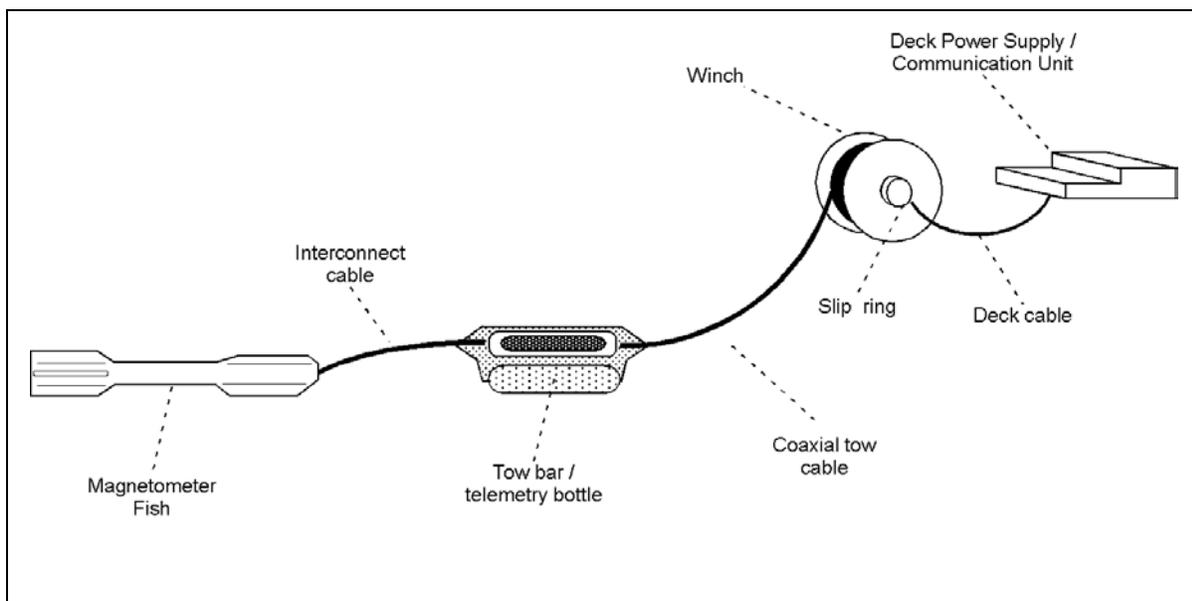
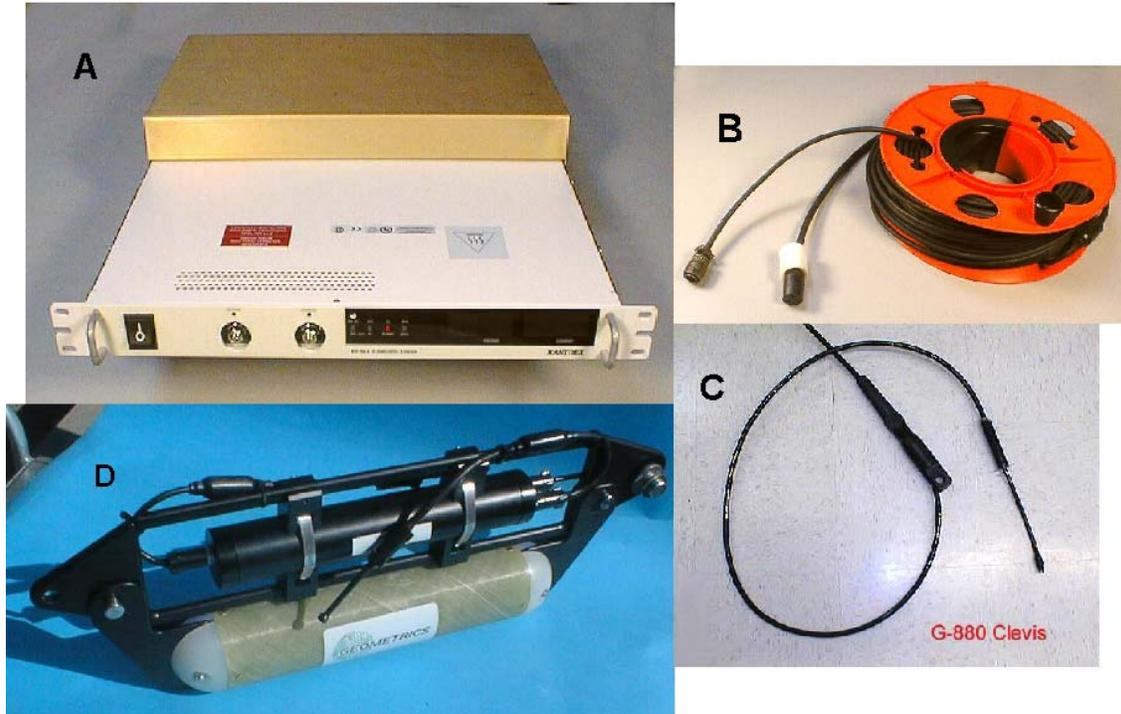

Figure 1. Simple telemetry system.
Figure 3. Standard telemetry components.
Geometrics marine magnetometers are powered by low-voltage (24v) sources and are equipped for two-way communication using an RS-232 serial data format. This power/communication method employs a 5 conductor tow cable and is limited by power and signal loss to cable lengths of 1000 ft (305m) or less. The low voltage/serial data scheme has several advantages but will not support operation on longer cables. To permit operation on cables longer than 1000 ft. Geometrics provides the telemetry system described in this manual. It is designed to provide power and data telecommunications for Geometrics' cesium-vapor marine magnetometer models G-880, G-881, and G-882 and will allow them to be operated on coaxial tow cable up to 10 km long. An illustration showing the major components comprising a typical system is shown in Figure 1.
As shown in Figure 1, the telemetry system comprises four (4) major components. These are the Xantrex deck power supply with communications unit, the on-board deck interlock cable, the coaxial interconnect cable with clevis termination, and the tow bar / wet-end telemetry bottle. Photographs of these four components are show in Figure 3. These images can be used to identify the components and their associated cables. If the telemetry system is provided by Geometrics as an integrated system and a coaxial tow cable is included, no splicing or other direct wiring will be required. However, if the user will be attaching the Telemetry System to a coax cable system not supplied by Geometrics, then the information provided in section 3.2 shows the correct method for connecting the coaxial cable to the deck and telemetry bottle cables.
Appendix Figure 3. Interlock Pigtail Cable.